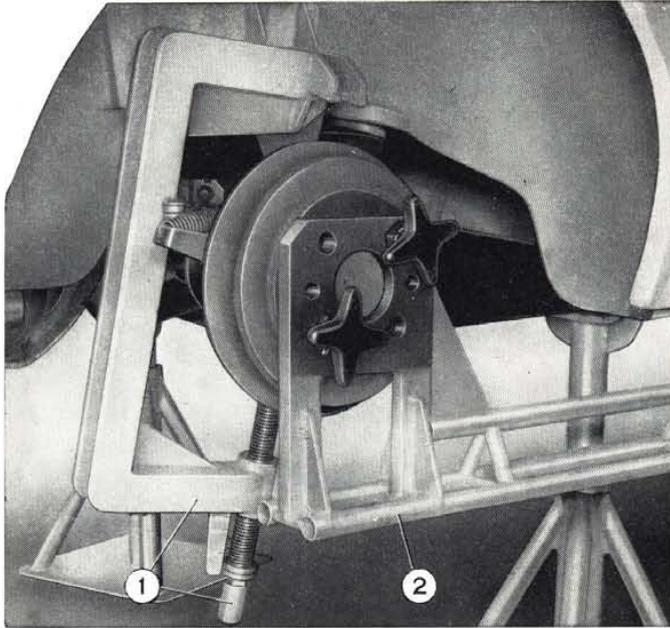

Fig. 266 - Installing rear wheel checking fixture.
- affix the gauge **Ap. 5110/1** with clamp **Ap. 5110/6** to the wheel shaft (fig. 266);